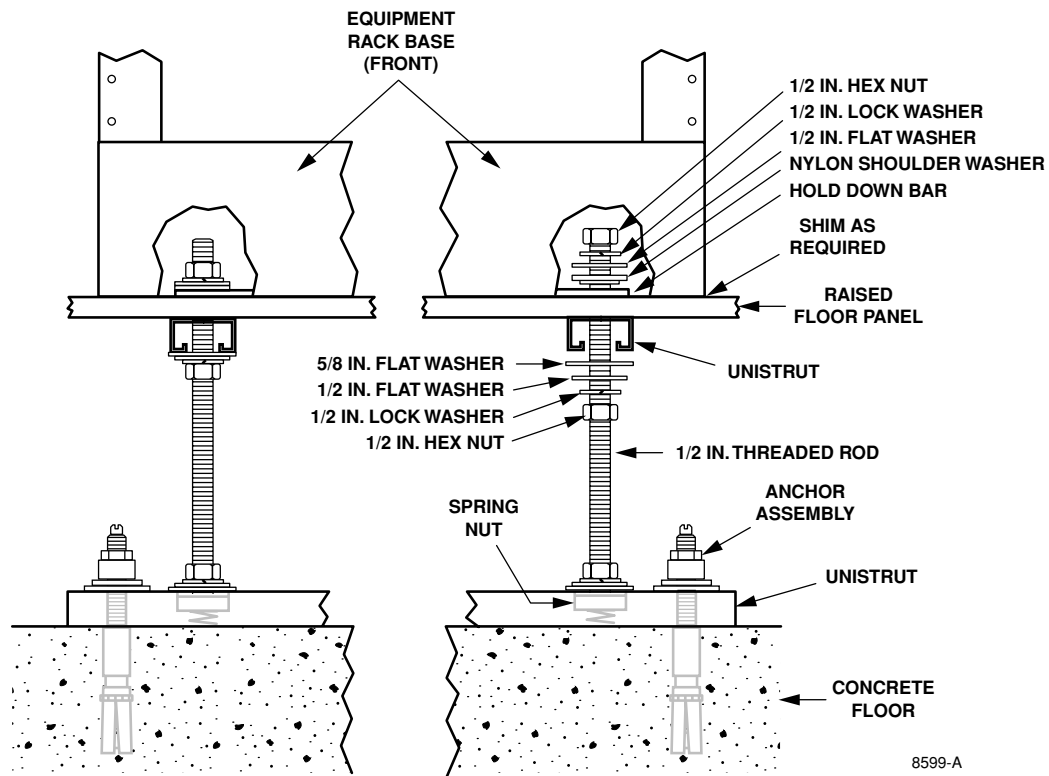

Figure 9. Typical Raised Floor Anchor Arrangement
9. Insert the anchors into each hole. Check that each anchor shoulder is even with the floor. Use a deep socket or box-end wrench and tighten the torque nut until the anchor is just snug. **Do not** tighten until the torque nut cap breaks way. Repeat for each anchor. Refer to Figure 9.
11. Insert spring-nuts into the Unistrut, aligning them with marks on the floor made in step 4. See Figure 9.
You may find it easier to have someone hold the Unistrut beneath the raised floor panel for step 16. See Figure 9.